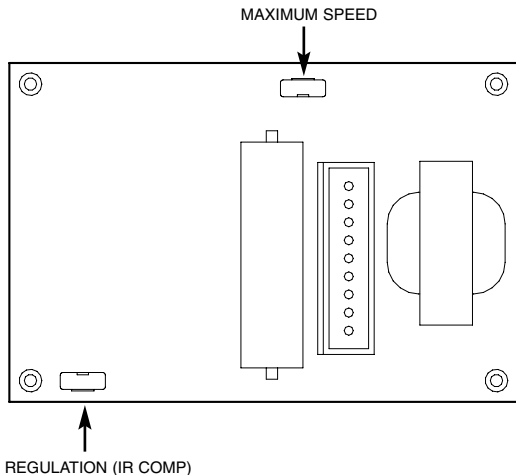

Figure 3. Maximum Speed and Regulation Trimpot Locations
3. Set the MAXIMUM SPEED trim pot to full CCW (refer to Figure 3 on page 13).
4. Set the REGULATION trim pot to full CCW (refer to Figure 3 on page 13).